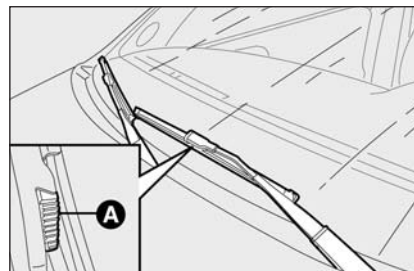

fig. 23
- press tabs **A-fig. 23** (set aside the blade) and remove the blade to be replaced from the arm;